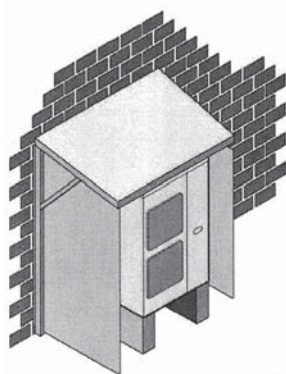

Figure 1: construction to prevent exposure to wind and snow
- Never install the outdoor unit at a site where the suction side (left and back) may be exposed directly to wind, snow. (See "Installation and Service space" information sheet and figure 1)